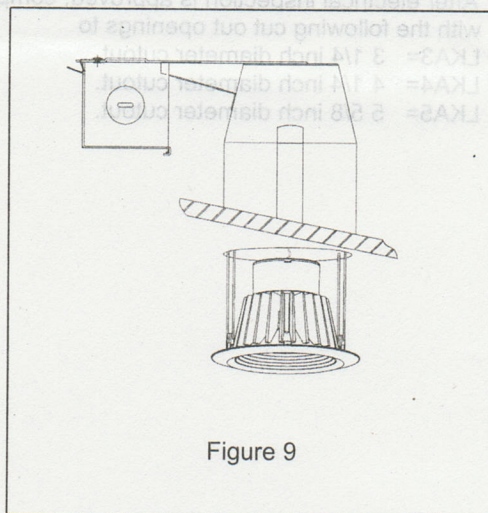

Figure 9
3. Once connectors are attached, squeeze the torsion springs together and place into brackets inside fixture. Release springs, and gently push trim into fixture until flush with ceiling. (Figure 9)